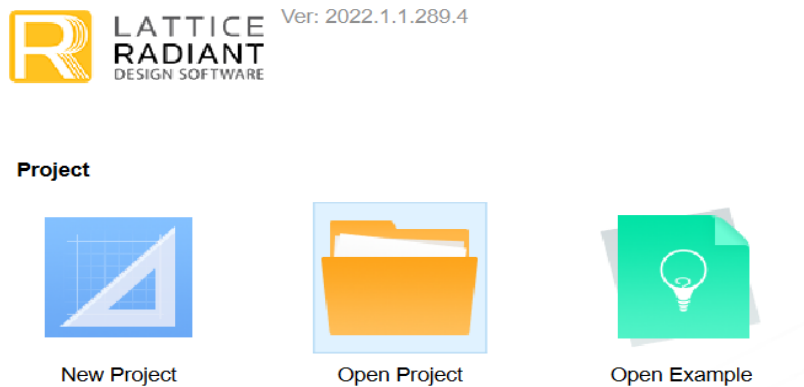

Figure 5.1. Open Project Icon
1. Click **Open Project** on home screen of **Radiant Software** and then open the existing project file, dp_vs_rd.rdf as shown in Figure 5.1.